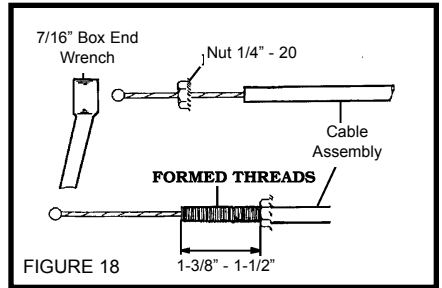

FIGURE 18
- a. Before using the **SNAP-IN ADAPTOR**, remove the Adjustable Sleeve from the **CABLE ASSEMBLY**. To use the **SNAP-IN ADAPTOR**, it will be necessary to form threads on the end of the **CABLE ASSEMBLY**. This is easily accomplished by placing the **1/4" - 20 NUT** on the end of the **CABLE ASSEMBLY** with your fingers. Then using an **7/16"** box end wrench and turning the Nut clockwise until the desired amount of threads have been formed. **Figure 18**
- c. Before using the **1/4" - 20 NUT**, remove the Adjustable sleeve from the **CRUISE CABLE**. Then use the **LOCKWASHER NUT** to form threads on the end of the **CABLE ASSEMBLY**. This is easily accomplished by placing the **1/4" - 20 NUT** on the end of the **CABLE ASSEMBLY** with your fingers. Then use an **7/16"** box end wrench and turn the nut clockwise until the desired amount of threads have been formed **Figure 18**